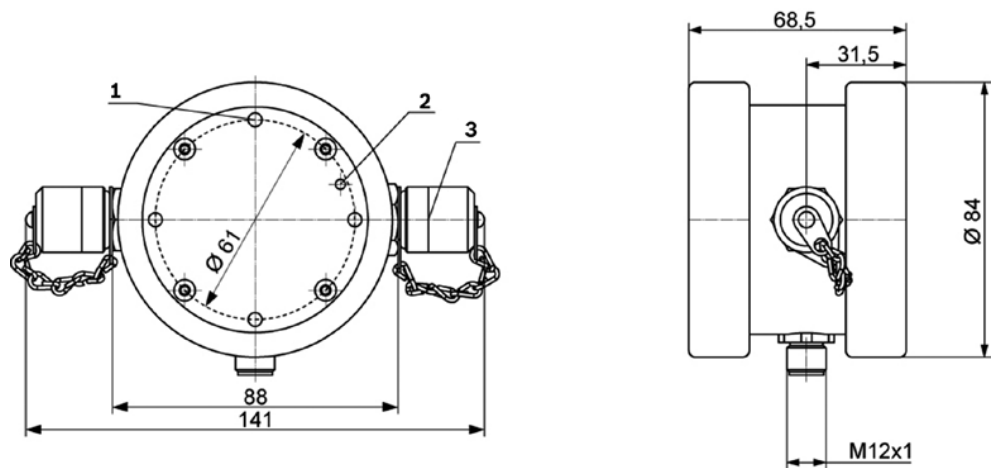

Fig. 6: Dimensions
- ▶ Fasten the online particle monitor using the mounting points, see fig. 6: Dimensions, on the device back side.